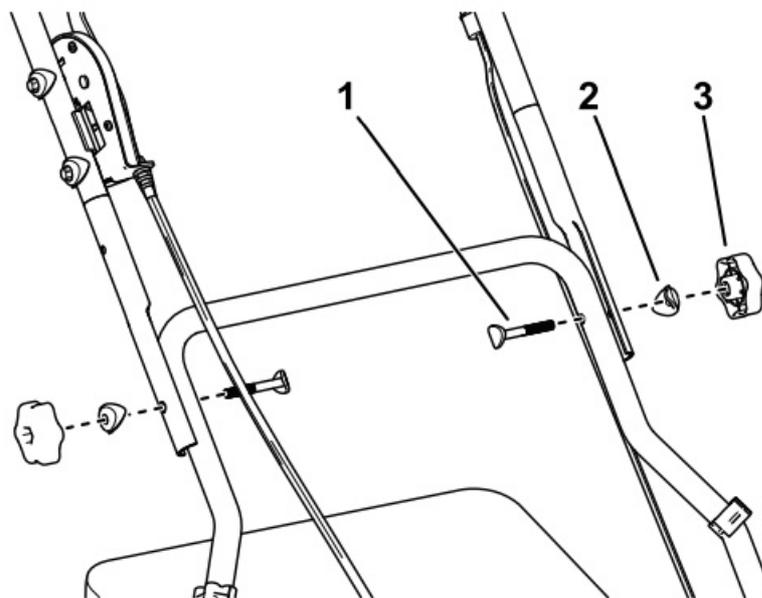

Figure 4
3. Install each side of the upper handle to the lower handle using a curved washer, curved head bolt, and a lock knob (Figure 4).
Note: Do not fill the fuel tank above the bottom of the fuel tank neck (Figure 4).